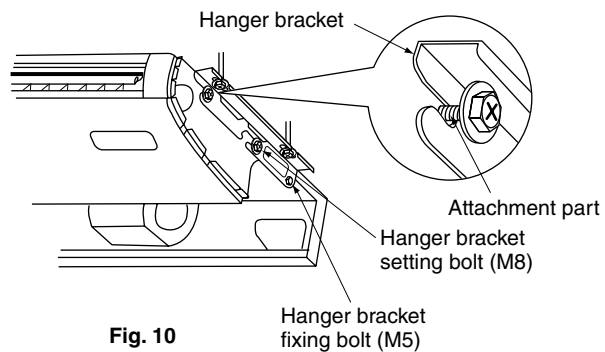

Fig. 10
- (2) Lift the indoor unit's main body, insert the bolt (M8) for the hook into the attachment part on the hook, while sliding the main body from the front. (Refer to Fig. 10)
- (3) Fasten the bolts for the hooks (M8) securely in the four locations, left and right. (Refer to Fig. 10)
- (4) Replace the screws for the hooks which had been removed (M5) securely in 2 places left and right. (Refer to Fig. 10)